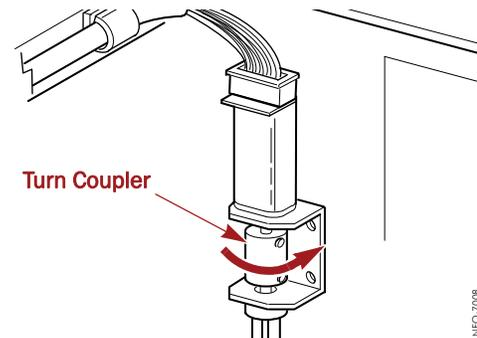

Figure 9. Turn Front Z-Axis Motor Coupler (Inside View)
- b. Manually lower the **Screw Rail bracket** down onto the track plate by turning the motor coupler (Figure 9) counterclockwise until resistance is felt.